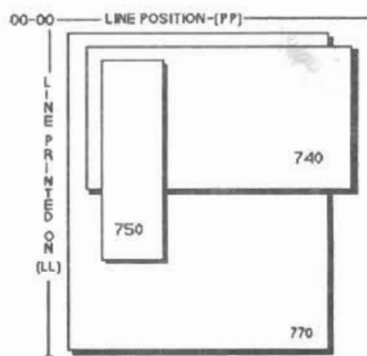

Figure 2 - Diagram showing relative Line (LL) and Position (PP) dimensions for various printer formats with upper left 'TAB' starting at 00-00.†
If a printer is connected to the indicator, the following series of 'TAB' displays are for setting the Line Printed On (LL) and the Position On The Line (PP) for Time, Date, ID, Consecutive Transaction Number, and Gross, Tare, Net labeling of weight. Refer to Figure 2 below showing relative (LL) and (PP) dimensions for various printers; to Table 'A' showing available printed Characters per inch for various printers; and to information in the appropriate Operator's manuals for various printers being used.